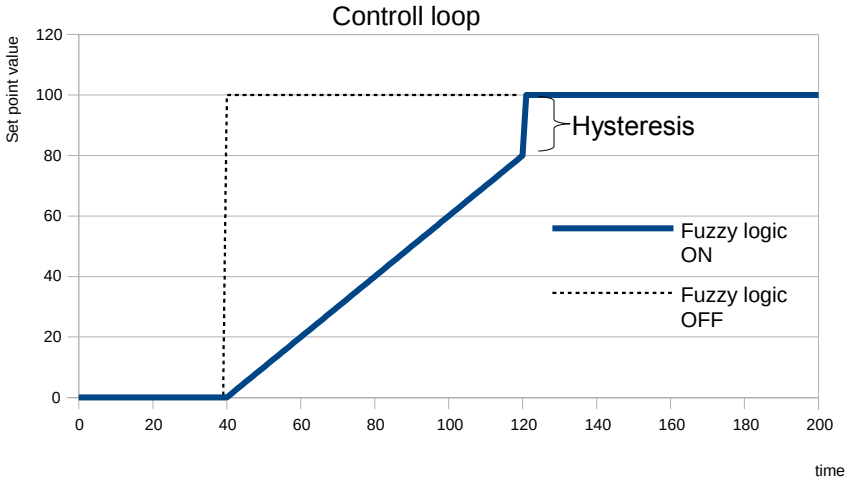

Fig. 7.115. Comparison of response of controller on change set point value with and without fuzzy logic block use
- **Hysteresis** – defines the value of hysteresis (see **Fig. 7.115**),